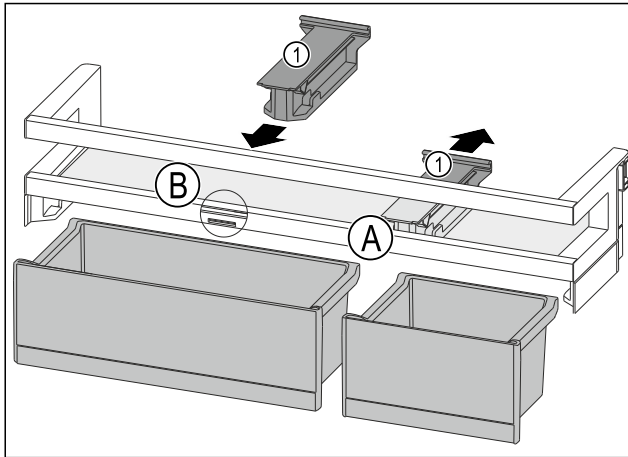

Fig. 109
- ▶ Take off the holding part Fig. 109 (1) in position Fig. 109 (A) backwards.
- ▶ Insert the holding part Fig. 109 (1) in position Fig. 109 (B).